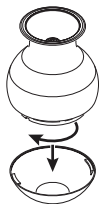

Figure 2
- Twist the bottom of the chime counter-clockwise to remove the control cover (see Figure 2).